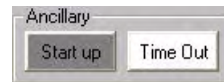

FIG. 83 Ancillary options - Start Up
1. From the *Ancillary* options (in the *System* window), select **Start Up** (FIG. 83):